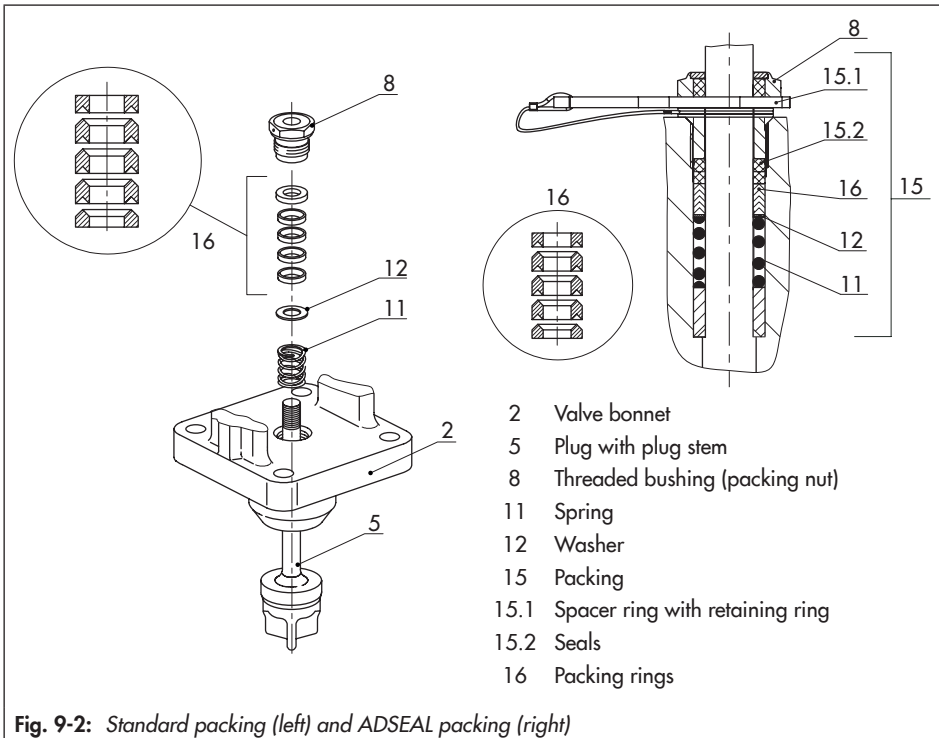

Fig. 9-2: Standard packing (left) and ADSEAL packing (right)
11. Carefully slide the packing parts over the plug stem into the packing chamber using a suitable tool. Observe the proper sequence (see Fig. 9-2).
12. Firmly press the plug (5) into the seat (4). Fasten down the flange (2) with the body nuts (14). Tighten the nuts gradually in a crisscross pattern. Observe tightening torques.
13. Screw in the threaded bushing (8) and tighten it. Observe tightening torques.
14. Loosely screw the lock nut (10) and stem connector nut (9) onto the plug stem.
- Spring (11)
- Washer (12)
- Packing rings (16)
- Insert the red spacer ring (15.1) between the threaded bushing (8) and retaining ring. See Fig. 9-2.
- Carefully lift the valve bonnet (2) over the plug stem extension (25) onto the insulating section (21).
- Unthread the stem connector nut (9) and lock nut (10) from the plug stem extension (25).
- Unscrew the threaded bushing (8).
- Remove nuts (33) and bolts (32).
- Carefully lift the valve bonnet (2) over the plug stem extension (25).
- Apply a suitable lubricant to all the packing parts and to the plug stem extension (25).
- Carefully slide the packing parts over the plug stem extension into the packing chamber using a suitable tool. Observe the proper sequence (see Fig. 9-2).
- Fasten the valve bonnet with nuts (33) and bolts (32). Observe tightening torques.
- Screw in the threaded bushing (8) and tighten it. Observe tightening torques.
- Loosely screw the lock nut (10) and stem connector nut (9) onto the plug stem.
4. Insert the red spacer ring (15.1) between the threaded bushing (8) and retaining ring. See Fig. 9-2.
14. Carefully slide the packing parts over the plug stem into the packing chamber using a suitable tool. Observe the proper sequence (see Fig. 9-2).
15. Firmly press the plug (5) into the seat (4). Fasten down the flange (2) with the body nuts (14). Tighten the nuts gradually in a crisscross pattern. Observe tightening torques.
16. Screw in the threaded bushing (8) and tighten it. Observe tightening torques.
17. Loosely screw the lock nut (10) and stem connector nut (9) onto the plug stem.